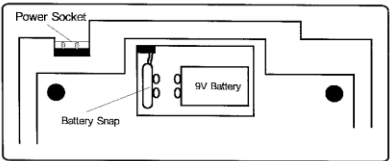

Figure 1. Bottom view of instrument showing power connections
- 7.** Change range to 200. Over range condition is indicated by the Figure 1 in the left hand digit of the display.